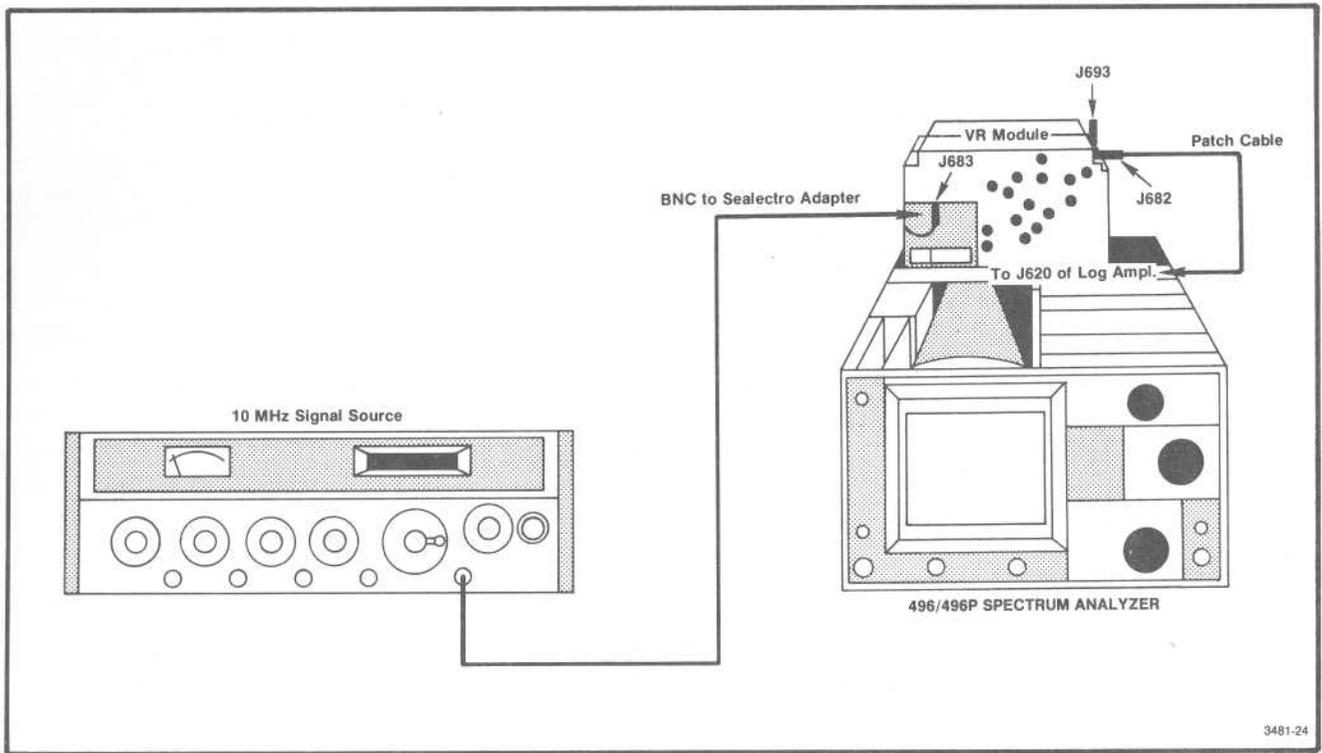
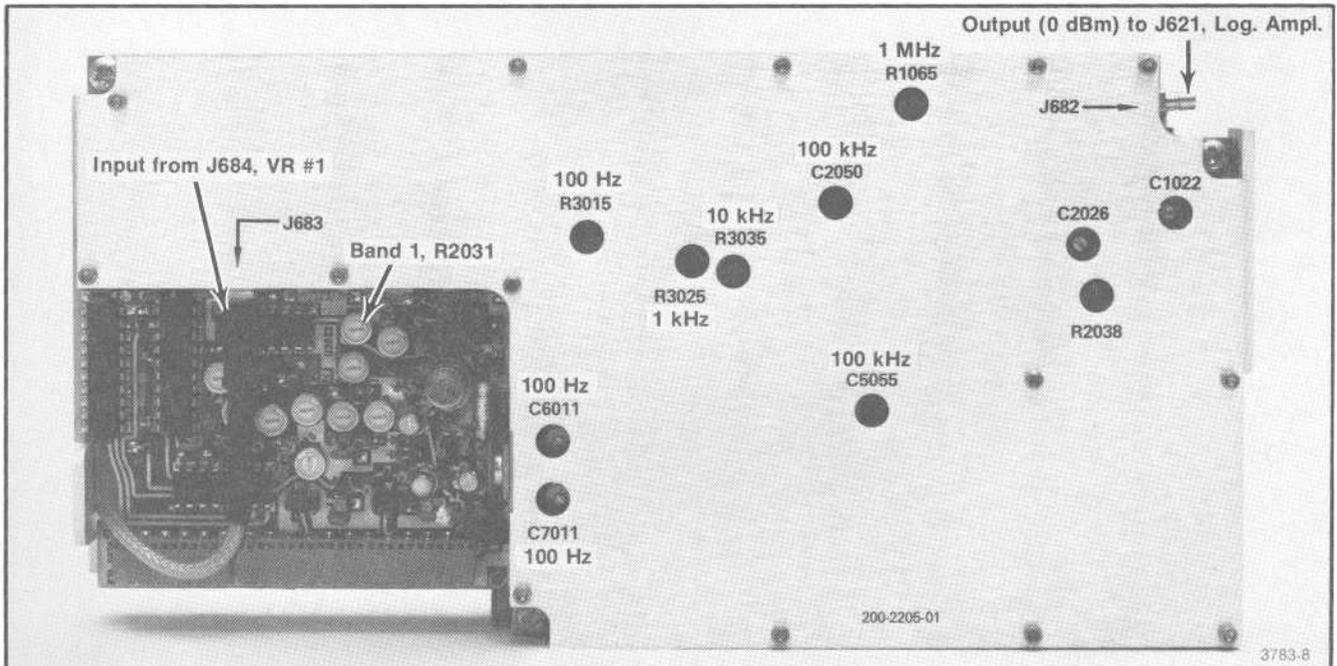
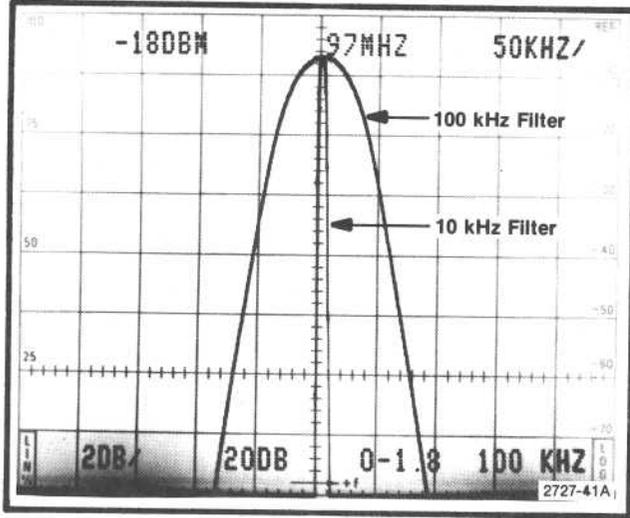

Fig. 3-36. Test equipment setup for calibrating the VR section.
Fig. 3-37. Calibration adjustments on the VR #2 module.
Fig. 3-38. Response of the 100 kHz filter.
g. Adjust C2050 and C5055 (Fig. 3-37) for the best 100 kHz filter shape and waveform centering (100 kHz, 3 dB down, and centered with respect to the 10 kHz reference). Refer to Fig. 3-38.
i. Adjust C2026 and C1022 (Fig. 3-37) for the best 1 MHz filter shape and waveform centering.
a. Equipment setup is shown in Fig. 3-36. Place the VR module on an extender and connect the output 10 MHz signal, from the 3rd Converter, to the input of the VR#2 section. Use a Seaelectro male-to-male adapter and coaxial cable to connect between P693 and J683.
Locations of the adjustments are shown in Figs. 3-37 and 3-39.
The Post VR Gain, R2038 (Fig. 3-37), is normally preset by removing the VR#2 module cover and applying a -21 dBm, 10 MHz signal to pin JJ. Adjust for a full screen display with a REF LEVEL of -30 dBm. Replace the cover before proceeding with the other gain adjustments. If the range of any band gain adjustments is insufficient, add a diode between the output from U3023 and the base of Q2046, as shown on the schematic diagram for Variable Resolution No. 2.
a. Test equipment is shown in Fig. 3-36. Install VR#2 module on an extender board as shown in Fig. 3-37. Set the front panel-controls as follows:
c. Adjust the front panel AMPL CAL to its fully ccw position and set the Band 1 Gain R2031 (Fig. 3-37) on VR#2 fully ccw.
f. If the signal is above 5 divisions, adjust the Post VR Gain R2038 (Fig. 3-37) for a 5 division signal amplitude (if the signal amplitude is less than 5 divisions proceed to step g).